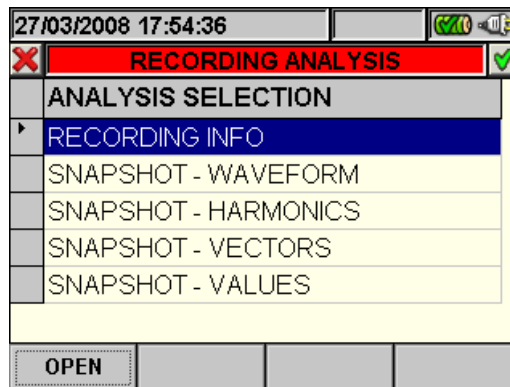

Fig. 98: Recording analysis (Istant-type data)
2. Press the **ESC** key (or the smart icon on the display) to exit the function and go back to the "Recording analysis" page (Fig. 98).
- The **ESC** key (or the smart icon on the display) to exit the function and go back to the "Recording analysis" page (Fig. 98).
- The **ESC** key (or the smart icon on the display) to exit the function and go back to the "Recording analysis" page (Fig. 98)